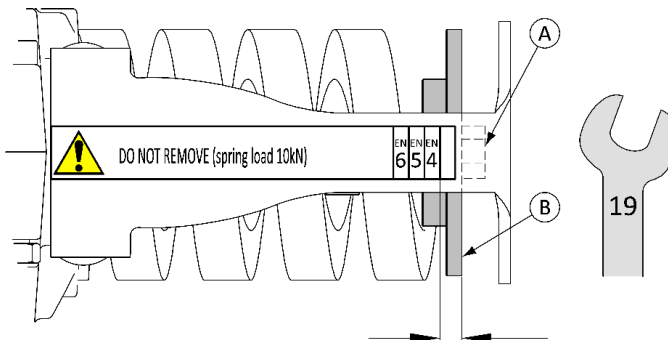

Fig.17 Spring closing force adjustment
- Tension the closing spring (Fig.17) to EN4
- Remove guide cover (A)
- Drill 4 holes along “V” mark on guide profile (B)
- Remove screws (B) and cleat (A) from arm assembly